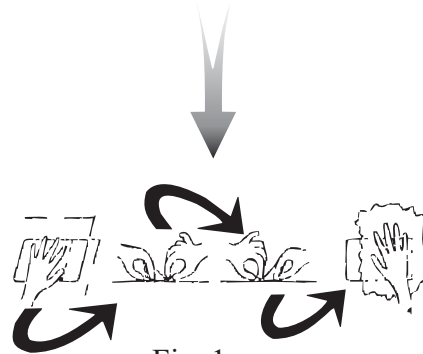

Fig. 1
2. Use one hand to hold the decal in position, with the other hand carefully roll the loose end over and peel the backing outward. When the backing is removed as described and shown (Fig. 1), with even and gradual pulling, the decal will roll onto the surface smooth and wrinkle free.